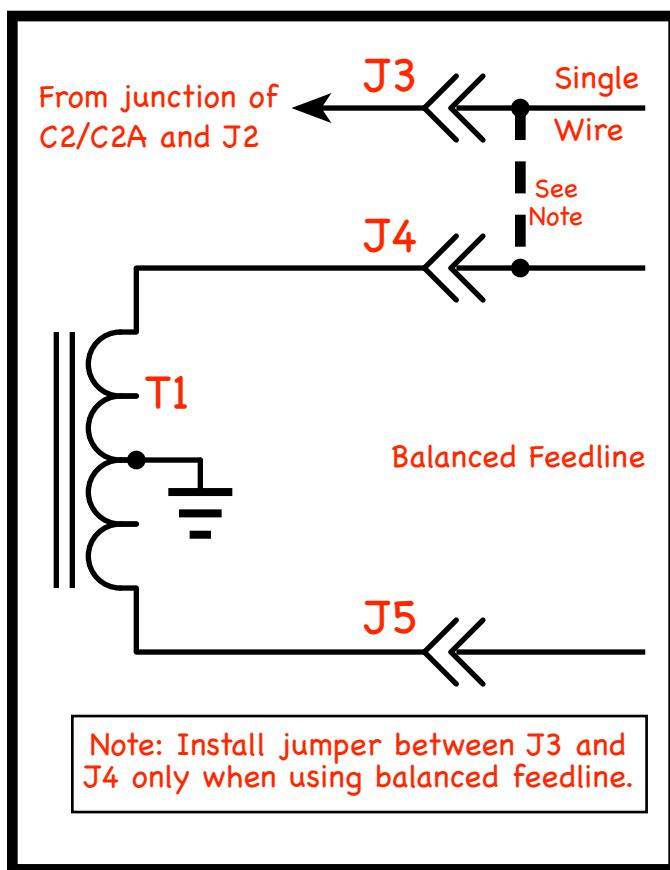

Figure 11: A toroidal balun (T1) may be added to any of the Transmatch networks discussed for a balanced feedline.
very sharp, especially on the lower bands, and a vernier knob on the capacitors was needed to ease tuning. The second drawback turned out to be the one that killed the SPC design. It was found to be significantly more lossy than the other two. Heathkit never used the SPC circuit; the SA-2040 uses the *Ultimate Transmatch* circuit and the later SA-2060(A) and SA-2500 both use the Tee-Transmatch circuit. Not shown in the **Figures 10** is the balun often found in these tuners. It is shown in **Figure 11**.